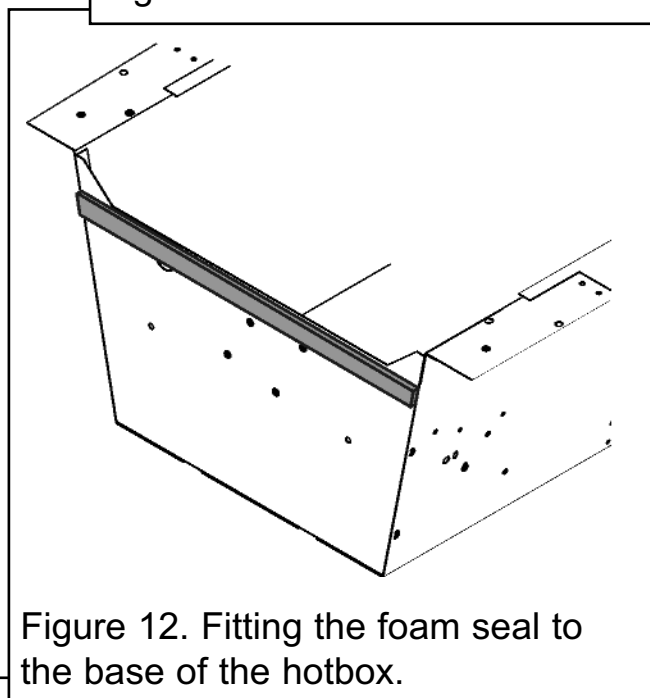

Figure 12. Fitting the foam seal to the base of the hotbox.
7. Supplied with the fire are a short and long length of self adhesive foam seal. Take the short length, peel off the adhesive backing and stick it to the underside of the hotbox (See figure 12).